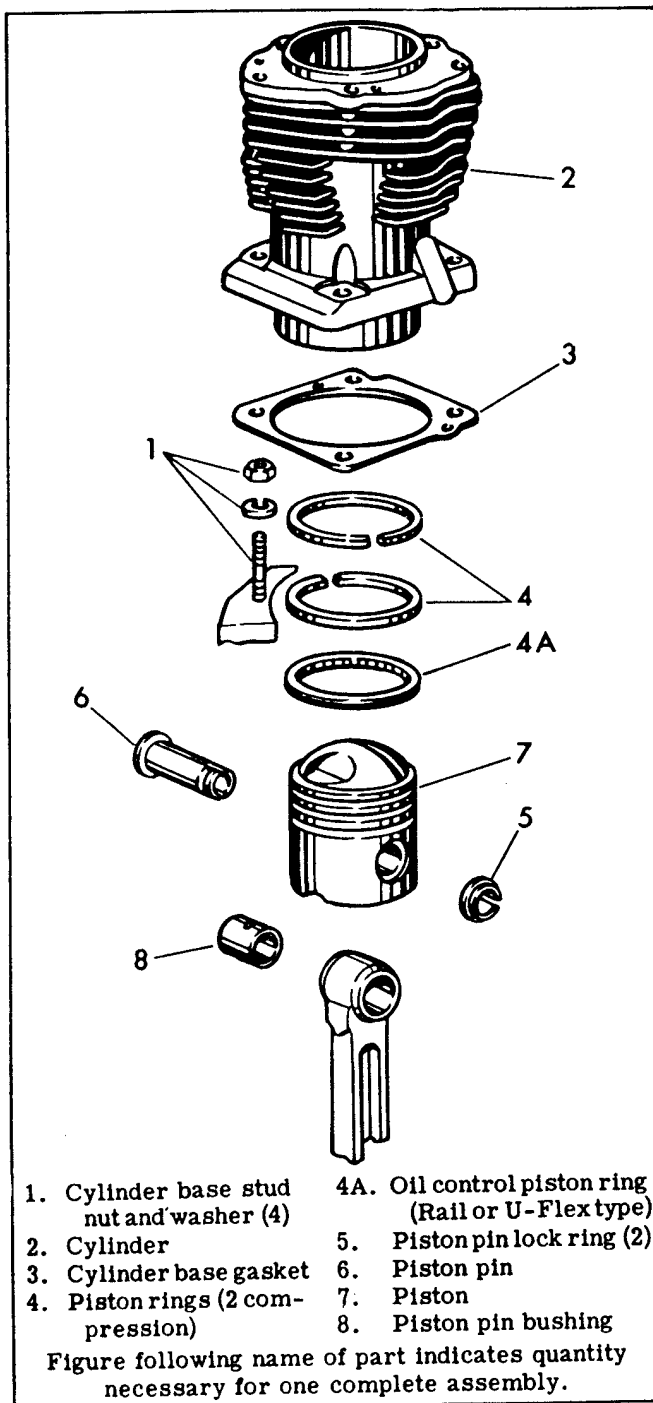

Figure 3C-1. Cylinder - Exploded View
DISASSEMBLING CYLINDER AND PISTON (Fig. 3C-1)
Spring piston rings (4) outward until they clear ring grooves in piston and lift off. Use a commercial ring expander if necessary. Pry right piston pin lock ring (5) off piston pin using the Piston Lock Ring Tool, Part No. 96780-32 and screwdriver as shown in Fig. 3C-2. Right end of piston pin has slots for this purpose. Tap out piston pin (6) and lift off piston (7).